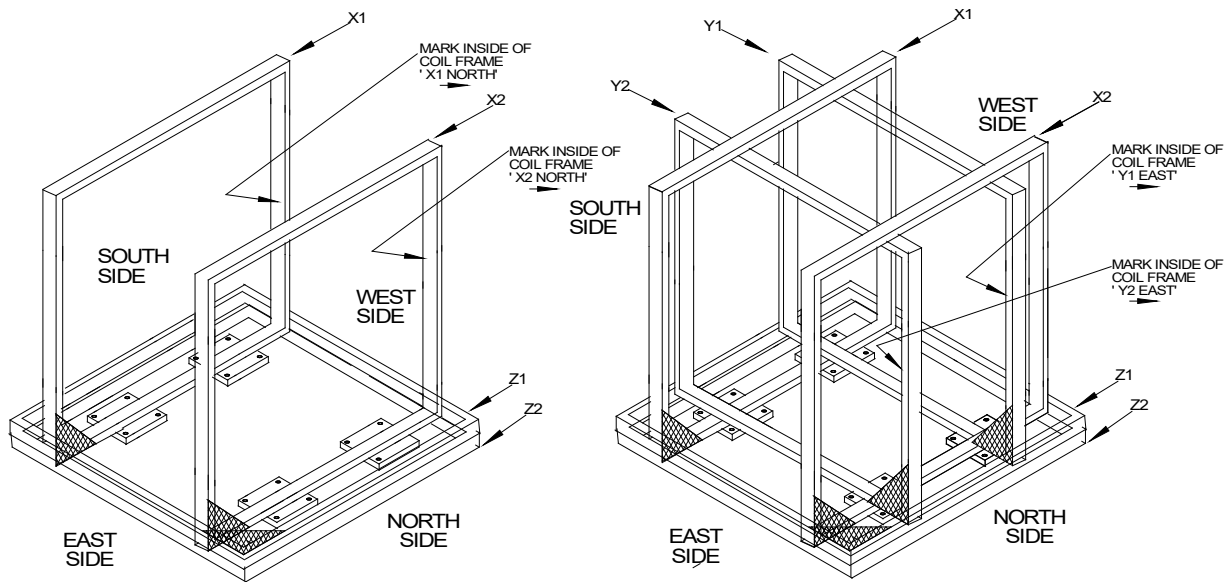

Figure 2-7 X-Axis and Y-Axis Assembly
1. Place the X1 coil with the marking upright and the marker arrow pointing as shown in Fig. 2-7. Make sure the coil is resting on the two footpads in line with it.